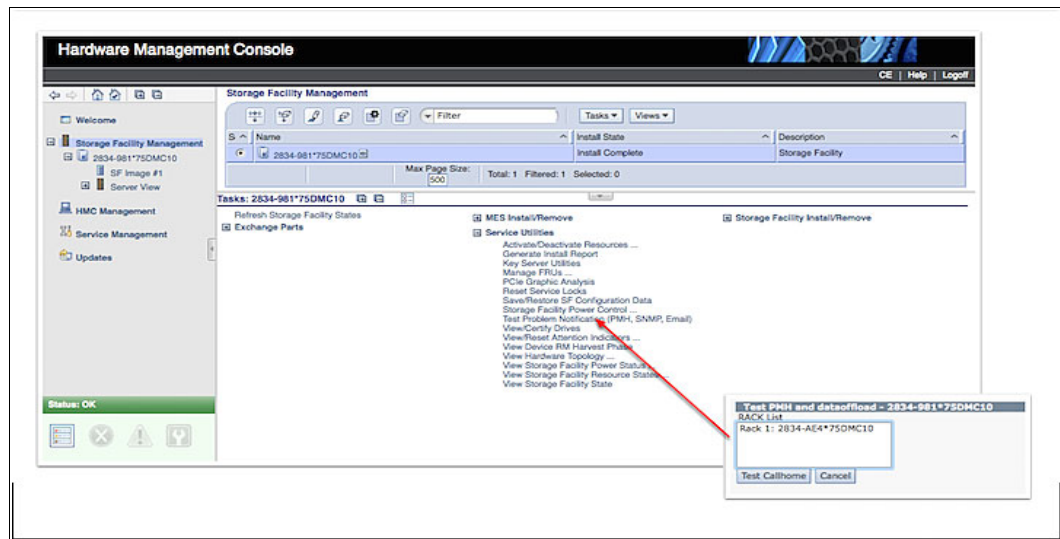

Figure 14-4 HMC test SNMP trap
3. To verify the successful setup of your environment, create a Test Event on your DS8880 Management Console. Select **Storage Facility Management** → **Services Utilities** → **Test Problem Notification (PMH, SNMP, Email)**, as shown in Figure 14-4.